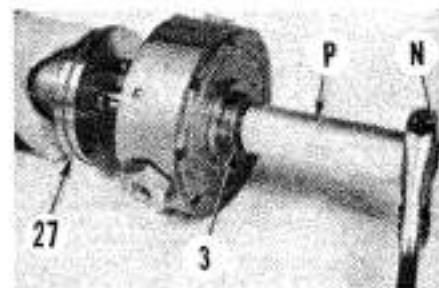

Fig. 14—A 25x110 mm (1x4-1/4 inch) piece of pipe (P) can be used together with steering wheel nut (N) to push snap ring (3) into groove.
Temporarily thread piston (27) and rack (32) onto shaft (31). Install lower snap ring (3), lower thrust bearing (8, 9 and 10) and valve spool (18) onto shaft. The groove inside valve spool (18) must be towards top (steering wheel) end of shaft. Install centering springs (12) and plungers (11), then carefully install valve body (14). Install upper thrust bearing (10, 9 and 8), shims (7), washers (6) and snap ring (3). The centering springs will make it difficult to install the snap ring into its groove, however, a 25x110 mm (1x4-1/4 inch) piece of pipe can be used as shown in Fig. 14 to push snap ring in-